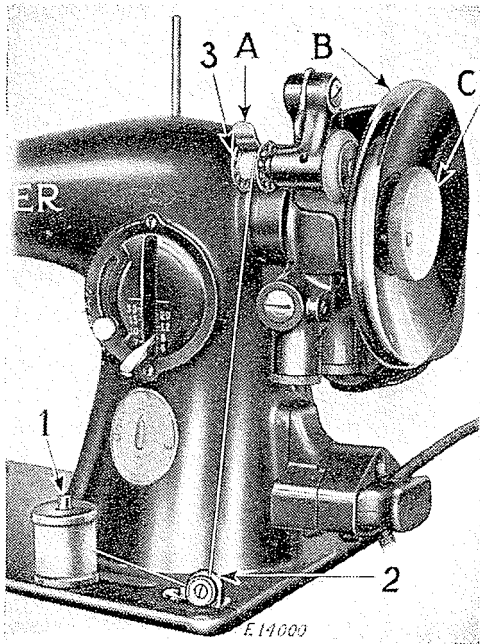

FIG. 5. WINDING THE BOBBIN
It is necessary to understand the stop motion (C, Fig. 5) by which the balance wheel (B, Fig. 5) can be released when required, thus permitting the winding of bobbins without running the stitching mechanism.
Place the bobbin on the bobbin winder spindle and push it up closely against the shoulder, having the small pin in the shoulder enter the hole in the side of the bobbin. Put the spool of thread on the spool pin (1). Draw the thread under and between the tension discs (2) on the bed of the machine, then pass the thread up and through one of the holes (3) in the left side of the bobbin, from the inside. Press down on the bobbin and the bobbin winder latch (A, Fig. 5) will drop down and hold the bobbin winder pulley against the hub of the balance wheel. Then press the knee controller or the foot controller the same as for sewing.
If the thread does not wind evenly on the bobbin, loosen the screw which holds the tension bracket (2, Fig. 5) in position on the bed of the machine and slide the tension bracket to the right or left, as may be required, then tighten the screw.